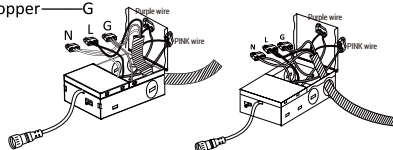

Fig2
**2.** Open the J-Box cover and remove the appropriate knockout(s) on the side panel. Install the appropriate cable clamp(s) (not included) and insert the electrical supply cable through the cable clamp. Connect the supply wires to the fixture wires by using 5 connectors. Attach white to white, black to black, copper to the ground wire, Connect purple wire to 0-10V DIM+. Connect pink wire to 0-10V DIM-, see Fig 2.